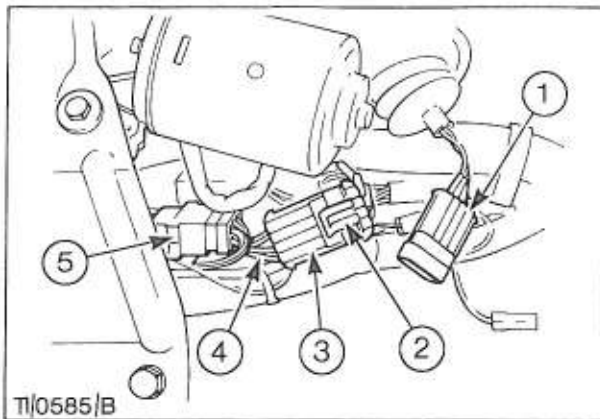

Fig. 2. Connecting Gearbox Sensor To Vehicle Harness
4. Identify the tachograph harness which passes through the bulkhead (see Fig. 2). Disconnect the tachograph connector and connect the male part to the female connector with orange wires identified in operation 3. This connects the gearbox sensor to the vehicle harness.